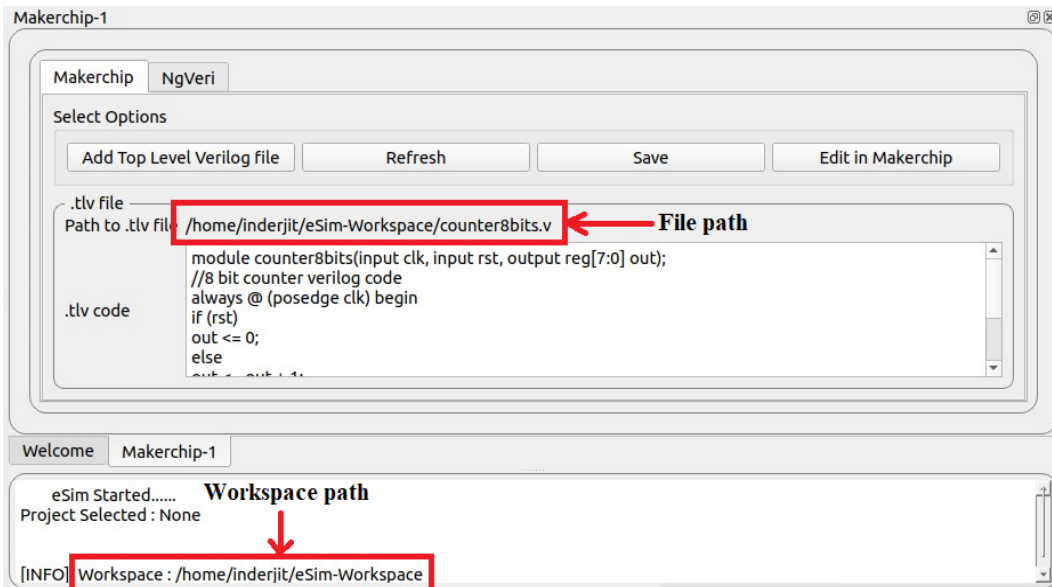

Figure 10.43: File and workspace path without spaces and special characters
2. User should avoid spaces or special characters in the path to file. Fig. 10.43 shows file path and workspace path without any spaces and special characters.